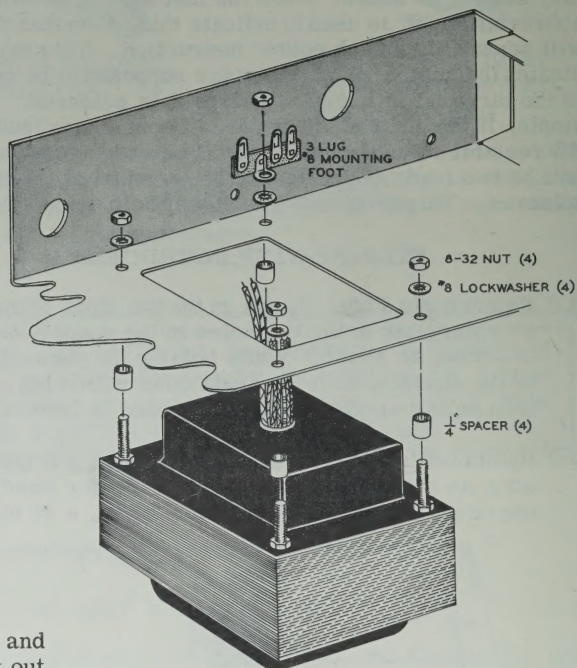

Figure 1B
- (X) Cut one black lead to 3" in length and the other to 2 1/2" in length. Strip the ends. Save the two pieces of excess wire as they will be used later.
- (X) Cut each of the remaining four colored filament leads (blue, yellow, blue-yellow, and yellow-green) to 2 3/4" in length. Strip the ends. Save these pieces of wire for use later.
- (X) Slip a 1/4" spacer onto each 8-32 stud and seat the transformer into its mounting position. See Figure 1B. Secure the transformer on the chassis bottom side with a #8 lockwasher and an 8-32 nut on each of the three studs, as shown. Mount a 3-lug terminal strip at QQ (has an 8-32 mounting foot) on the transformer stud. Use a #8 lockwasher first, then the mounting foot, and the 8-32 nut last.
- (X) Refer to Pictorial 1 and mount the single-pole single-throw (SPST) switch at location A, with the lockwasher and one nut on the inside of the chassis.